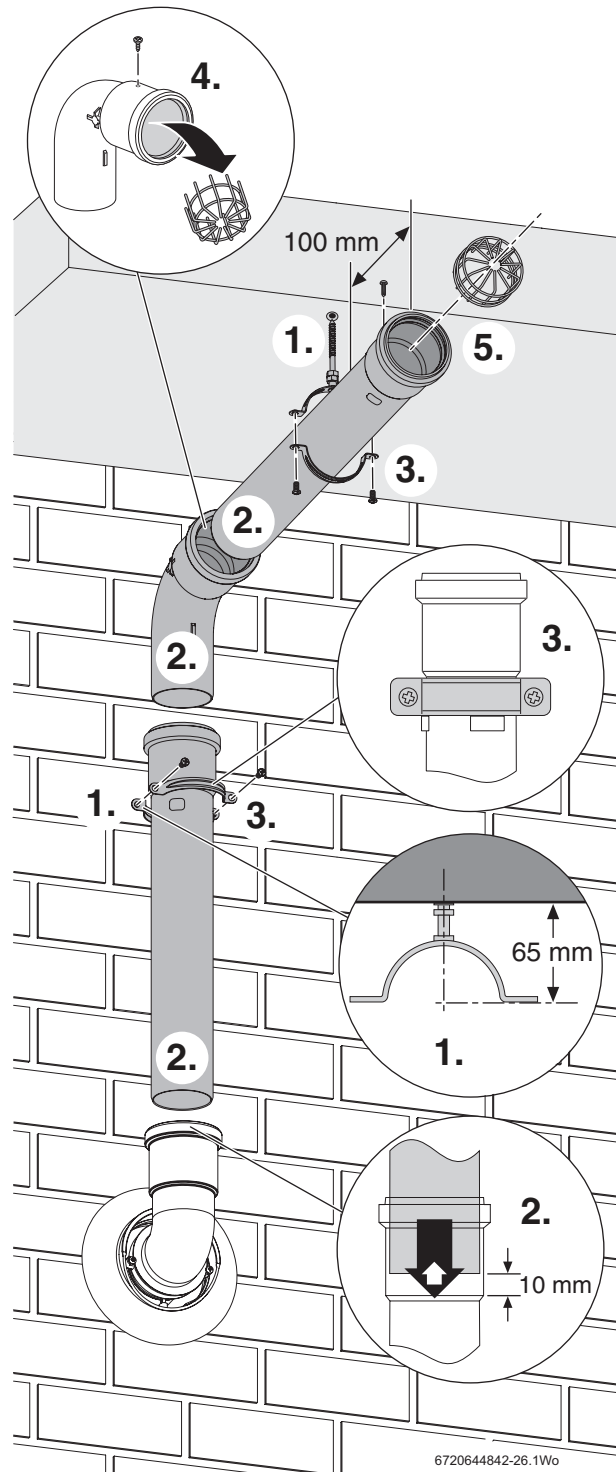

Fig. 42 Under balcony installation
1. Refer to figure 42 and mark the position for the wall clamp that coincides with the extension tube just below the top fitting. Drill a suitable hole and fit the wall plug. Screw the clamp into the wall plug as shown.